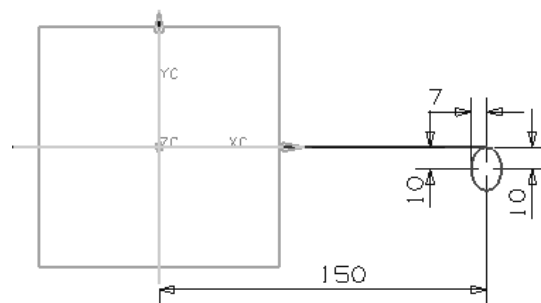

Figure 11-106 The sketch for the section string
2. Draw another ellipse on the XC-ZC plane as per the dimensions shown in Figure 11-106 and exit the **Sketcher** environment.